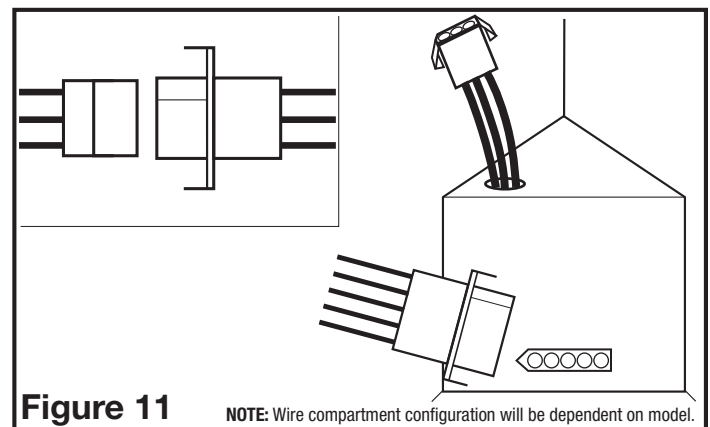

Figure 11
3. Plug the fan's 5 pin quick connect motor cord into the receptacle on the side of the wiring compartment cover and the light's 3 pin quick connect into the receptacle on the top of the wiring compartment cover. These cords will only fit one way into the receptacles (Figure 11).